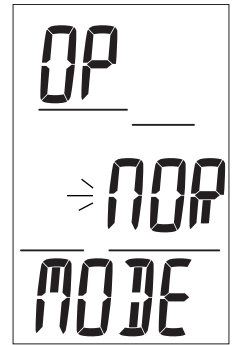

Fig. 42 - Set DIVE OP MODE
**Set Dive Operating Mode**, information includes (Fig. 42):